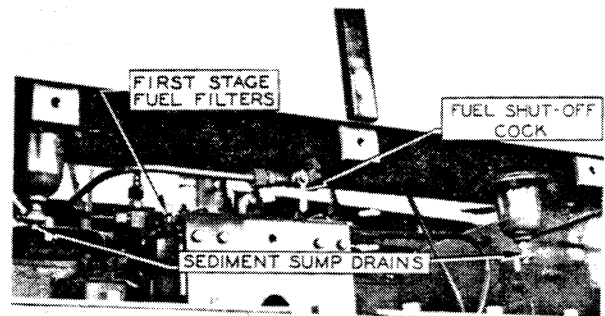

FIG. 3
10. Shut off fuel supply under tank by turning shut-off cock handle. Fig. 3.